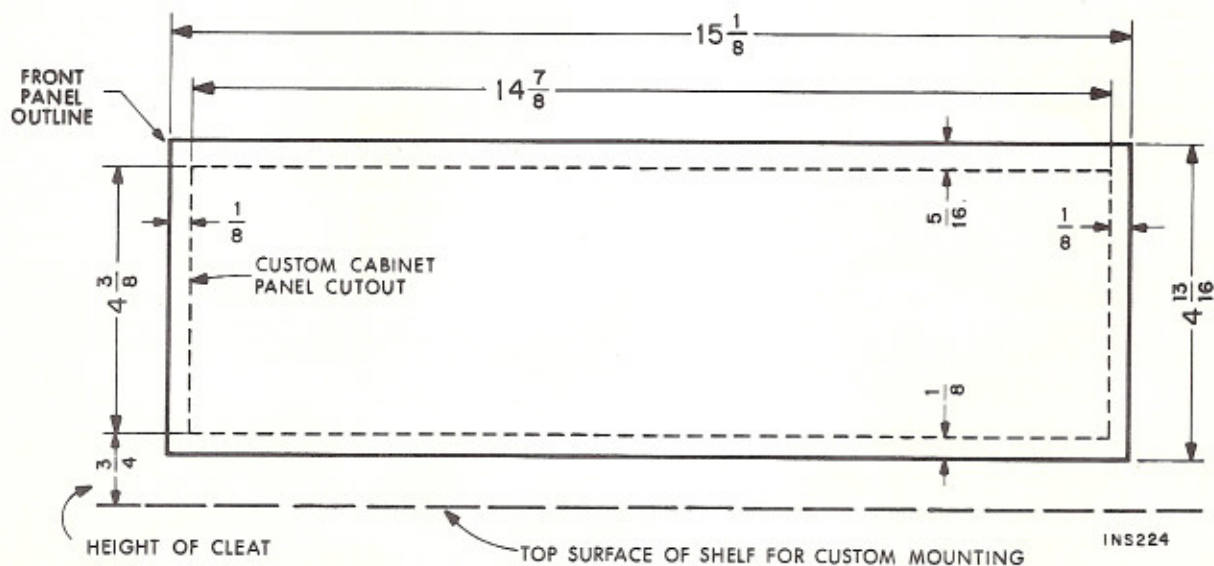

Figure 5. Panel cutout for custom mounting
(3) Saw a cutout through the front panel of your cabinet to the dimensions shown in Figure 5. The distance between the top surface of the mounting board and the bottom of the cutout must be the same as the height of the cleats.
(4) Insert the TX-300 chassis through the front of the panel cutout. Slide the chassis into the cabinet until the back of the control panel is tight against the panel of the cabinet.
(5) Insert the four $1\frac{1}{2}$ -inch screws supplied in the accessories bag through the holes in the bottom of the mounting board and fasten the chassis into place.
(1) Determine the position in which you wish to mount the amplifier. After checking beneath the top panel of the cabinet for any obstruction, make a cutout in the top panel of the cabinet, as shown in Figure 5.
(7) Mount cleats 3 and 4 on the inside of the cabinet as shown in Figures 5 and 7. Drill $\frac{1}{8}$ -inch pilot holes for each screw, about $\frac{1}{4}$ inch deep.